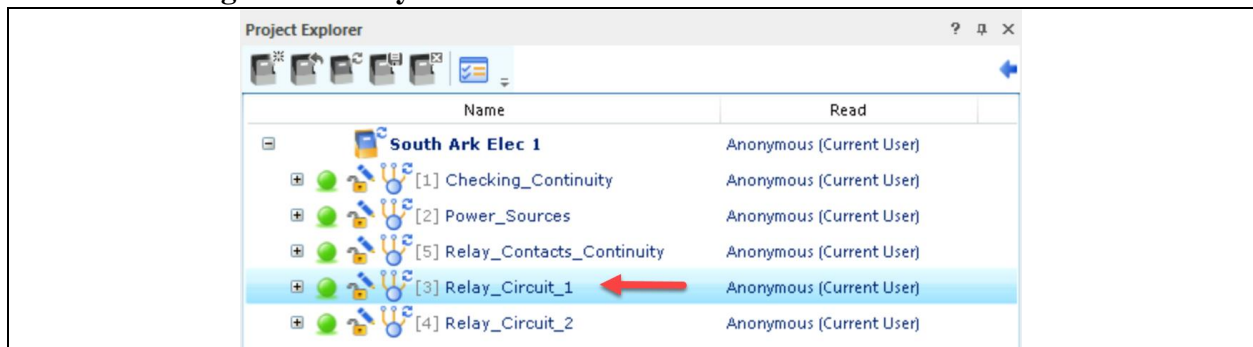

Figure 12. Navigating to the Relay_Circuit_1 document.
1. Navigate to the Power_Sources document in the project as shown in Figure 12.